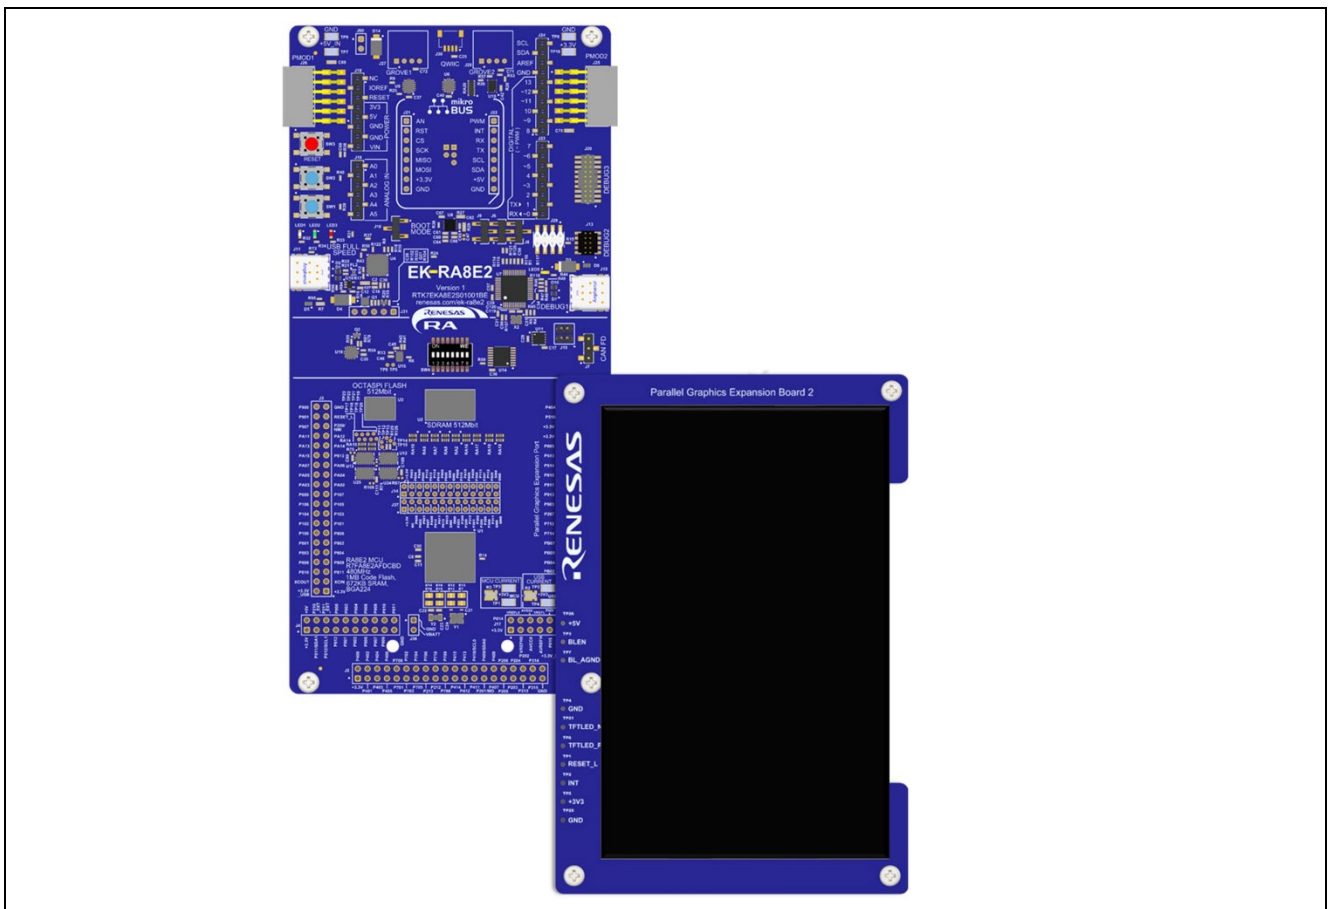

Figure 29. Schematic and Board Connection between LCD to J1 Connector on EK- RA8E2 Board
11. LCD panel connects to J1 40 pins on EK_RA8E2 board. It should look like figure 29.